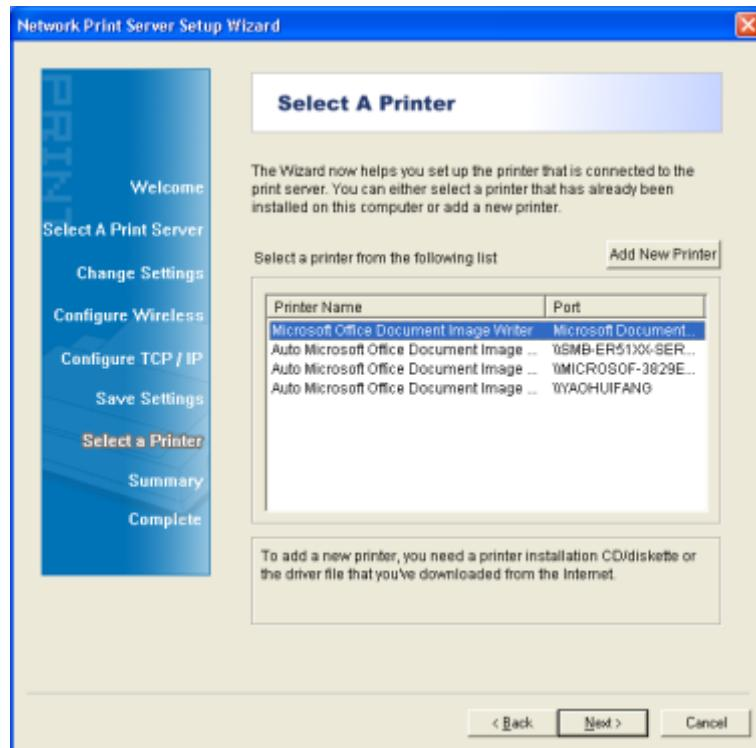

Figure 3-9
- Select “**No**” if you don’t need to change any settings. Click **Next** and then appears Figure 3-9. Skip to Step 23.
8. After that the “**Select a Printer**” page will appear, as shown in Figure 3-9.
- If you never use a printer on your computer before but also want to share printing, click **Add New Printer** button in Figure 3-9 and then Figure 3-11 appears. Follow the steps below to install the printer driver.